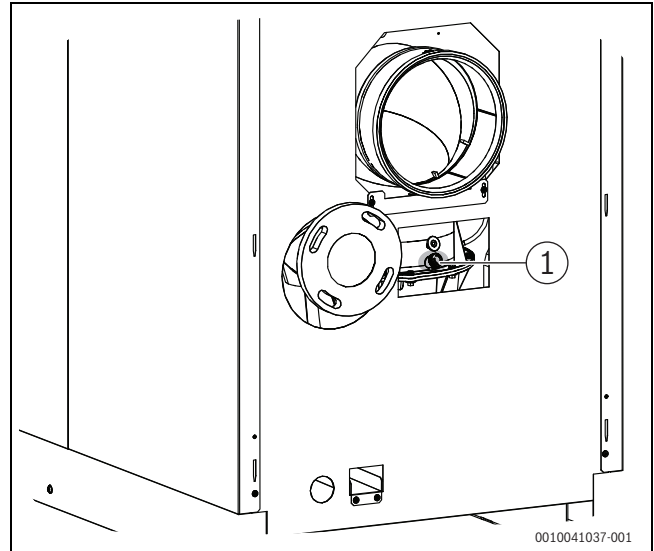

Fig. 40 Recording measurements
- ▶ Insert the test sensor through the measurement port (→ Fig. 40, page 32) in the flue gas collector into the core stream and check the O2 value.
- ▶ Insert the test sensor through the measurement port (→ Fig. 40, page 32) in the flue pipe into the core stream and check the O2 value.